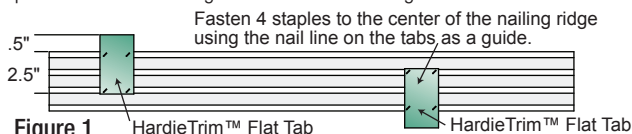

Figure 1
- Step 1:** Attach HardieTrim Flat Tabs to the back side of the trim using four(4) 18 ga. 1/2" x 1/4" narrow crown galvanized staples using a pneumatic staple gun. The nail line on the tabs provide a guide for fastening the staples. (Figure 1)